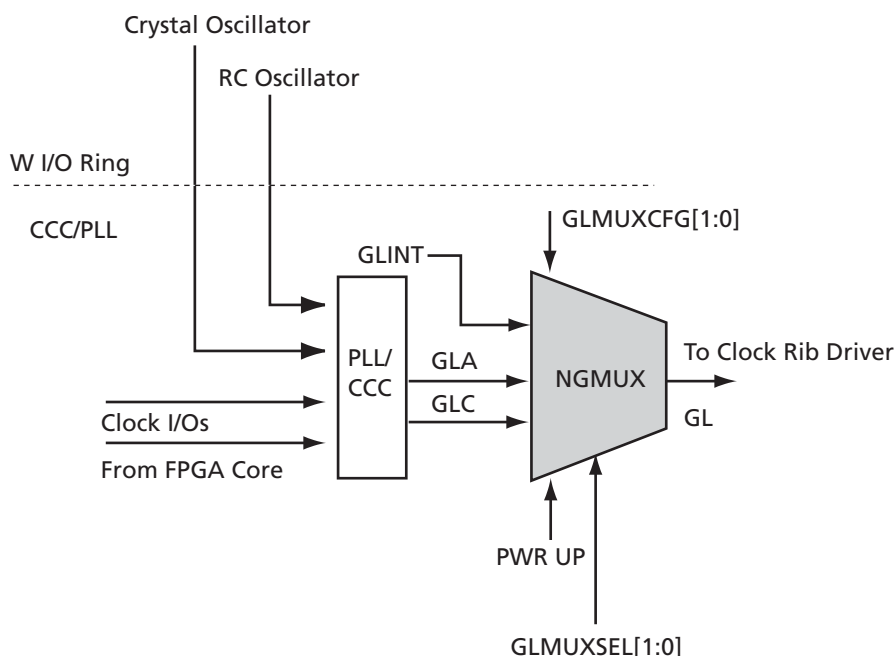

Figure 2-24 • NGMUX
in Figure 2-24. The GLMUXCFG[1:0] configuration bits determine the source of the CLK inputs (i.e., internal signal, GLA, or GLC). These are set by SmartGen during design, but can also be changed by dynamically reconfiguring the PLL. The GLMUXSEL[1:0] bits control which clock source is passed through the NGMUX to the global network (GL). See Table 2-13.